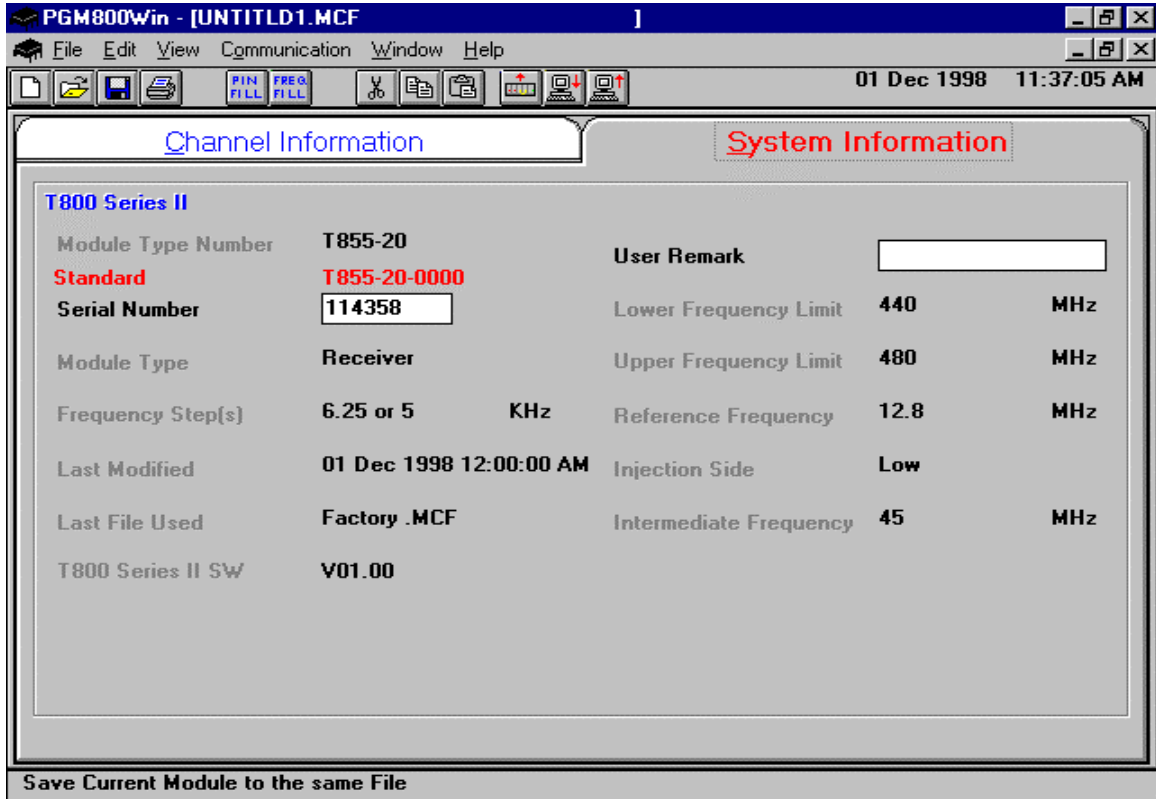
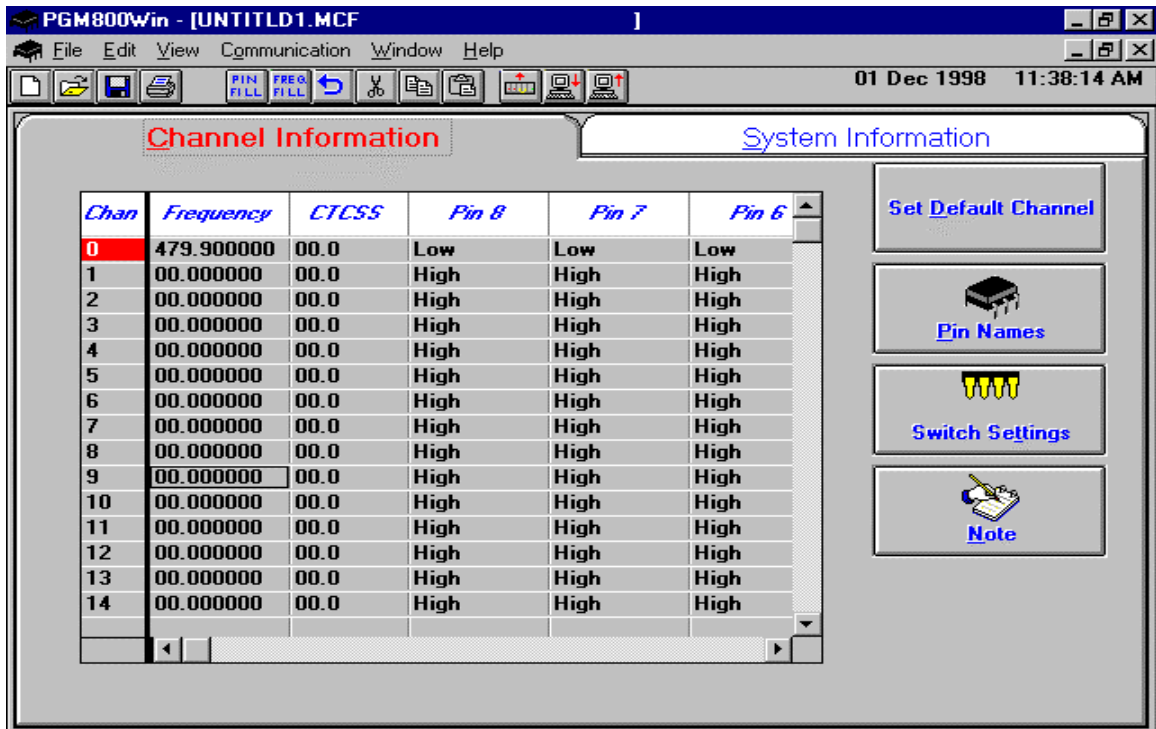

Figure 17 - Receiver System Information
Figure 18 - Receiver Channel Information screen
- Refer to Figure 17, Figure 18, Figure 19 and Figure 20 for screen program examples.